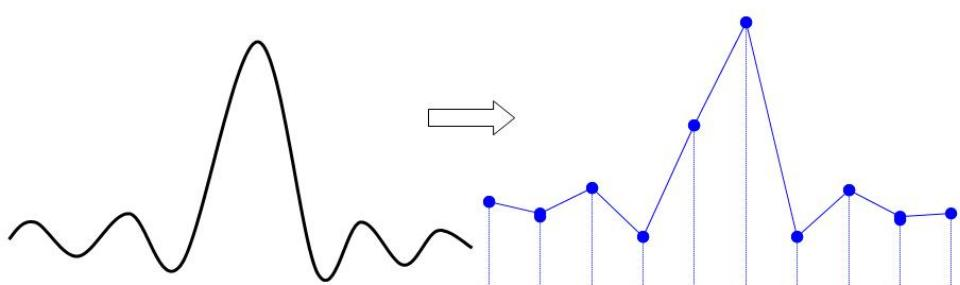

Figure 10-1
(2) Effect of Low Sampling Rate
■ **Waveform Distortion:** Due to low sampling rate, the details of the waveform might be missing, the sampled waveform might have large different than the actual signal, as shown in Figure 10-1.